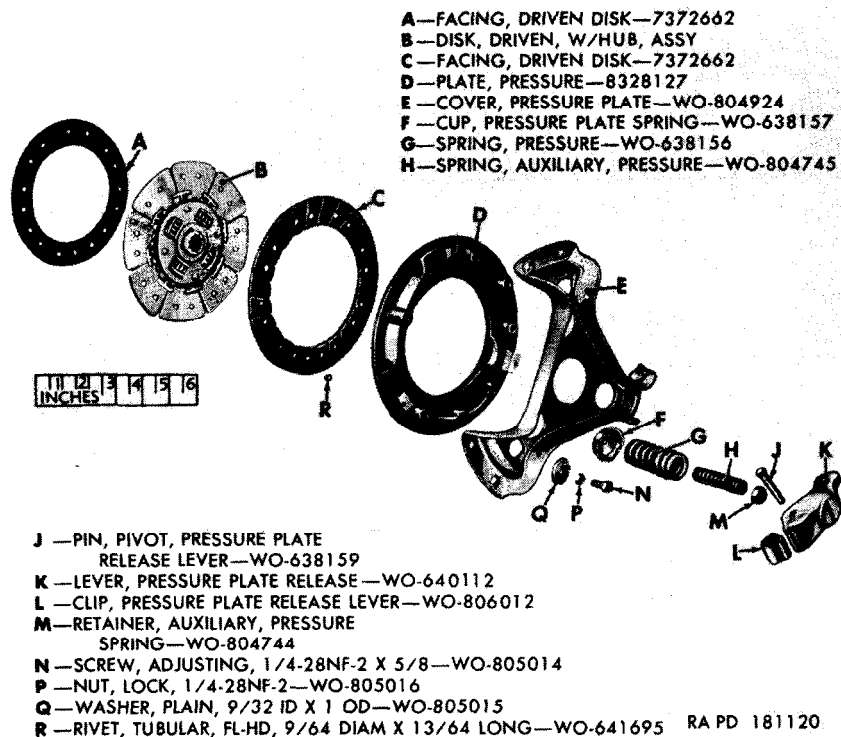

Figure 109. Clutch assembly—disassembled view.
b. Exert a moderate amount of pressure on the section of round stock to depress the release levers. Remove the pressure plate release lever clips (L, fig. 109) from the ends of the levers.
d. Remove the pressure plate spring cups (F, fig. 109), pressure springs (G, fig. 109), auxiliary pressure springs (H, fig. 109), and auxiliary pressure spring retainers from the pressure plate (D, fig. 109).
(fig. 109)